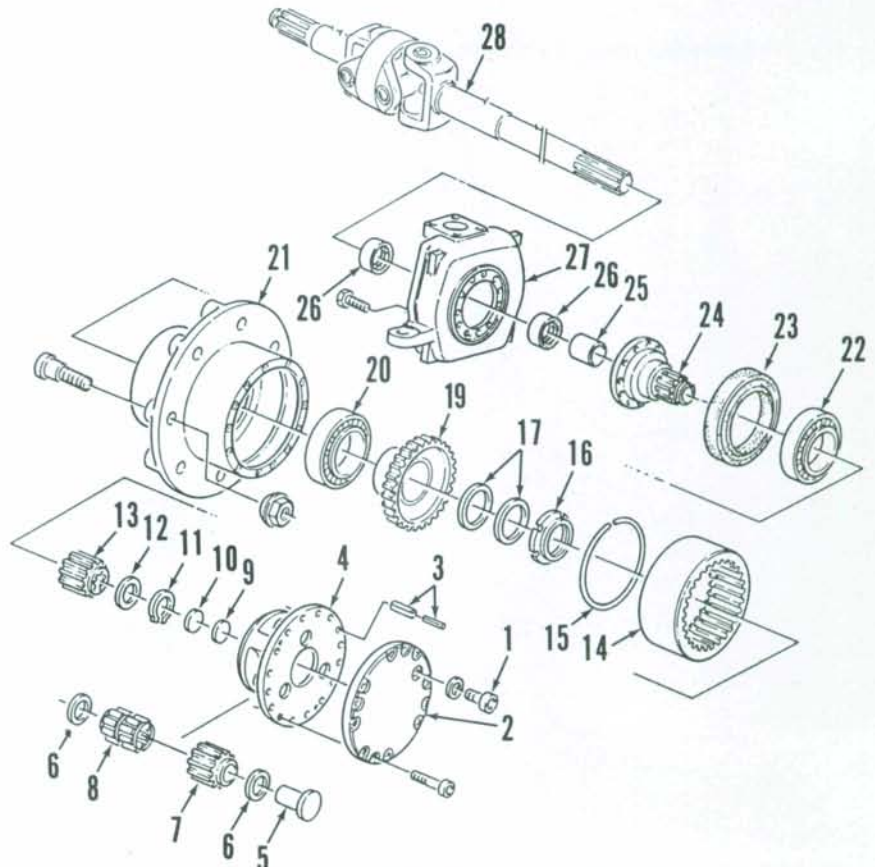

Fig. 6—Exploded view of front wheel drive planetary final drive and wheel hub assembly.
8. R&R AND OVERHAUL. To remove final drive assembly from either side, first raise and support front of tractor and remove front wheel. Drain oil from final drive housing. Unbolt and remove outer cover (2—Fig. 6), shims (9) and washer (10). Thread